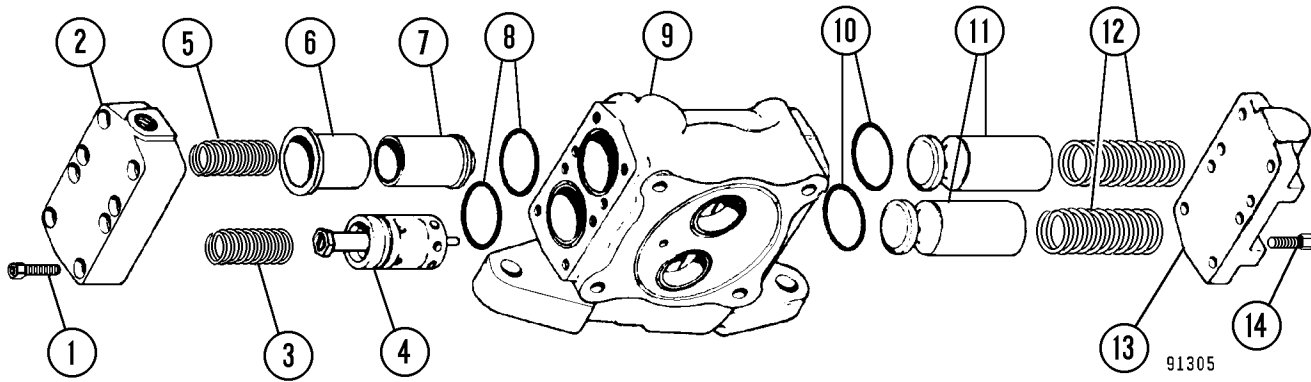
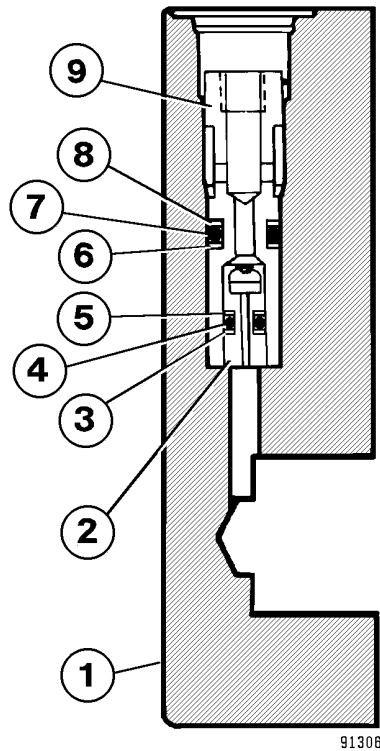

FIGURE 8-5. INLET SECTION DISASSEMBLY
FIGURE 8-6. RESTRICTOR POPPET REMOVAL (Inlet Cover)
2. Disconnect the external tube (7, Figure 8-2) at the cover end and remove. Remove capscrews (14, Figure 8-5), remove cover (13). Remove springs (12), check valves (11) and O-rings (10).
3. Remove capscrews (1) and cover (2). Remove springs (3 & 5) and flow control/main relief valve (4). Remove sleeve (6), low pressure relief (7) and O-rings (8).
*NOTE: If restrictor poppet removal in cover (2, Figure 8-5) is required, refer to step 4 and figure 8-6.*
4. Remove sleeve (9), backup ring (8), O-ring (7), backup ring (6). Remove backup ring (5), O-ring (4), backup ring (3) and restrictor poppet (2).